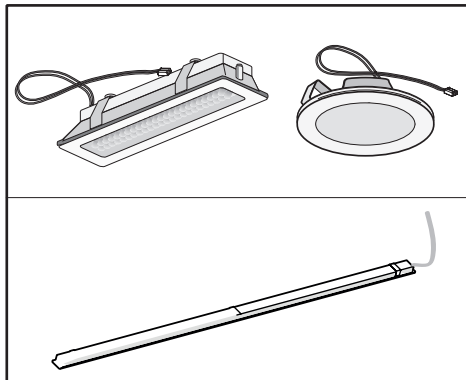

Fig.10
• **Replacing LED lamps (Fig.10):**